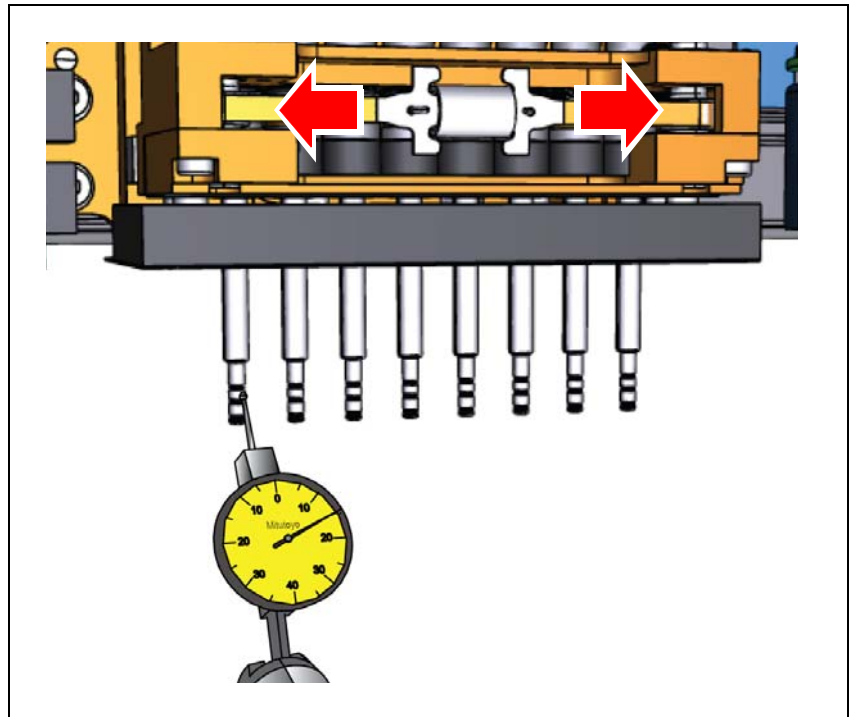

Figure 6-28. Position the dial indicator at HYDRA tool 1.
16. Move the X wagon back to HYDRA tool 1 and turn the tools (by moving the THETA belt back and forth, see top of Figure 6-28) until the indicator shows a value in the middle of the tools eccentricity range. Make a note of the received value.